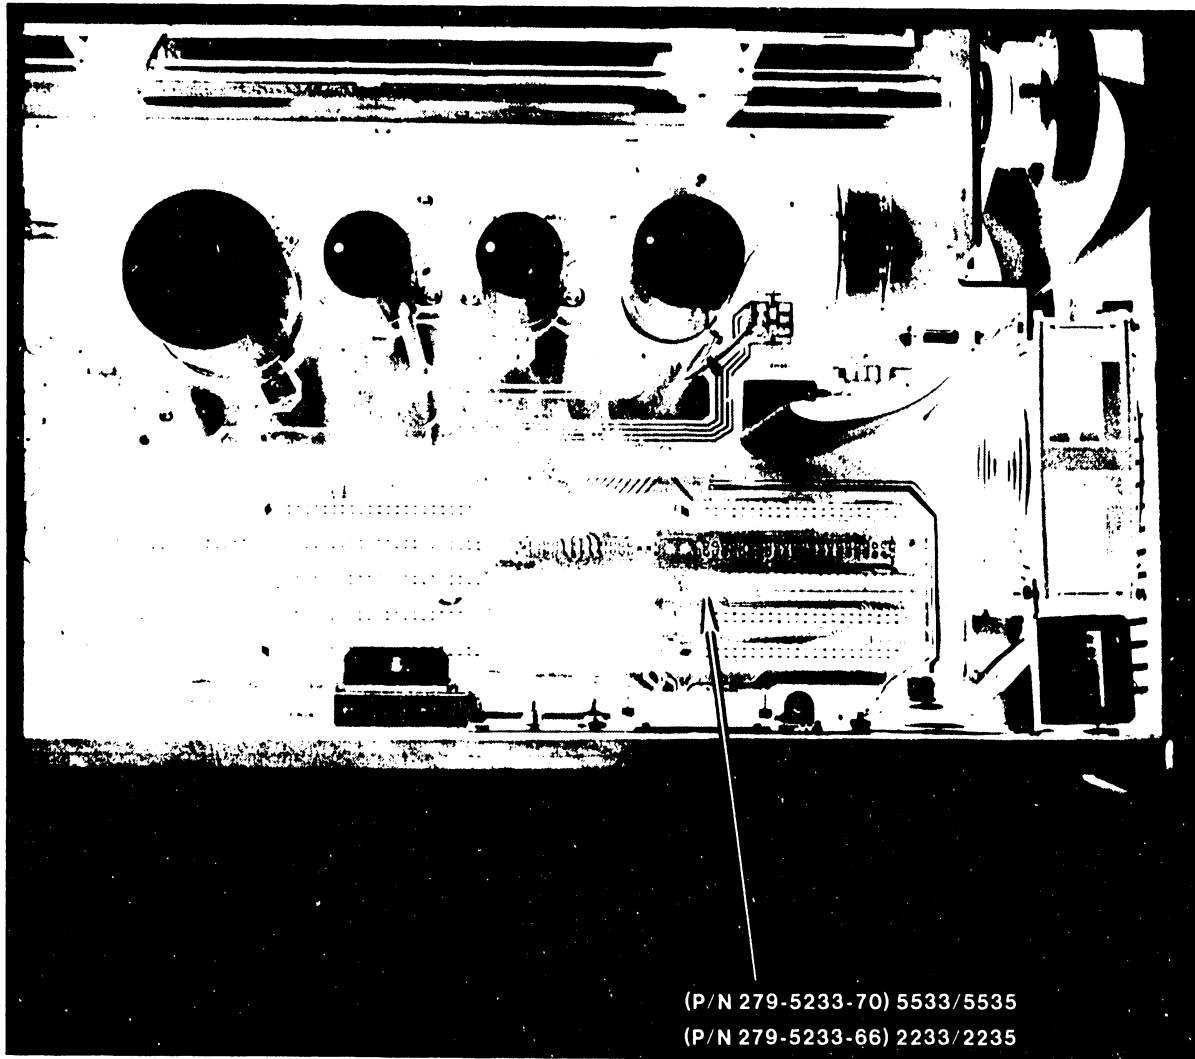

Figure 5-12 Motherboard Removal
5.4.1 Motherboard P/N 279-5233-70, P/N 279-5233-66 (Figure 5-12).